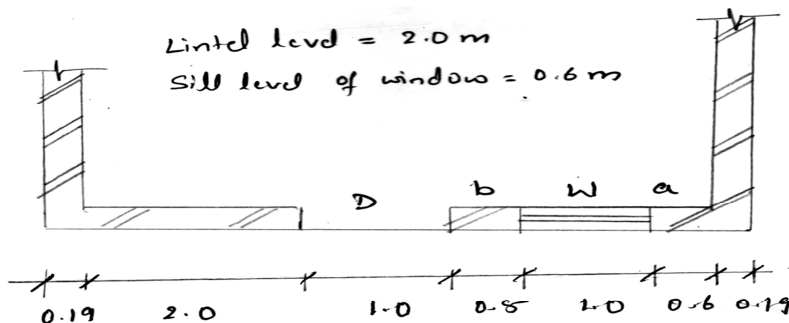

Fig. 5 [C]
- c. External wall of a single storeyed house is 200 mm thick and has door and window openings as shown in Fig. 5(c) plinths level is 1.2 above the top of foundation footing and floor to ceiling height is 2.80 m. One way RCC slab of 3 m clear span beams on the wall is 100 mm thick. Determine the maximum stress in the wall and calculate the strength of brick and grade of mortar required for the wall. There is 200 mm thick parapet wall of 0.8 m height above the roof slab wall and parapets are plastered on both sides. 9 L5 CO4 PO1,2,3